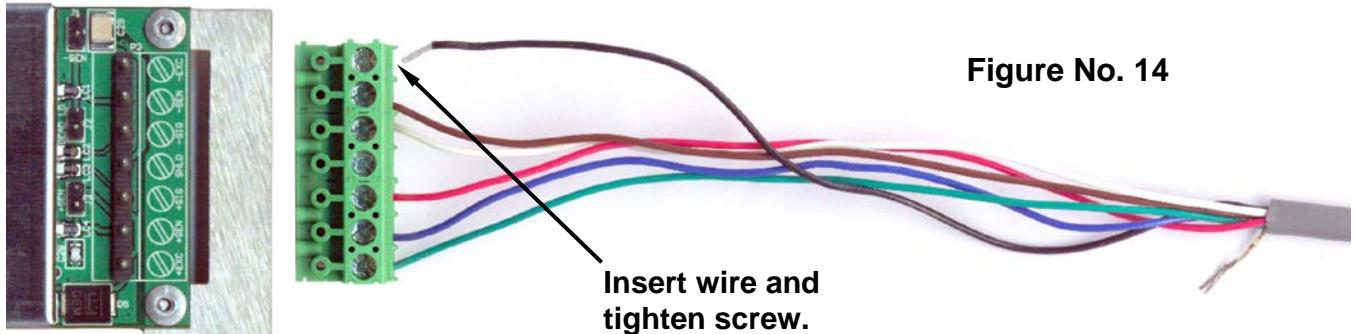

Figure No. 14
7. To terminate a wire, loosen the screws in the terminal block and then insert the wire into the terminal opening. Tighten the screw to secure the wire in place. See Figure No. 14.